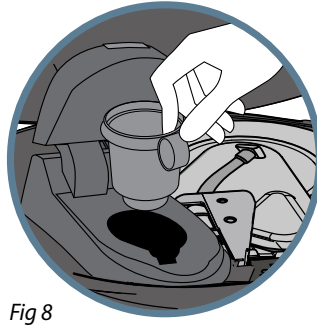

Fig 8
9. Remove the coffee cup holder (brown) (Fig 8) and machine wash (top rack only).